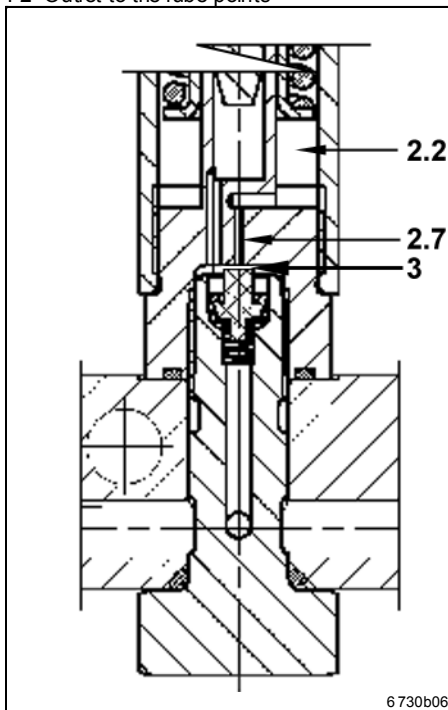

Fig. 7 Shifting process I
- At the same time the valve 3 moves downward and prevents the lubricant from flowing back into the main line (see Fig. 7).